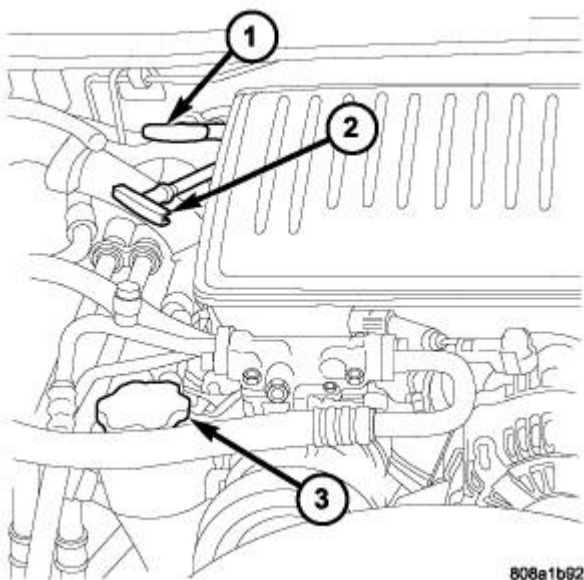

Fig. 123: Transmission And Engine Oil Dipsticks & Engine Oil Fill Cap
The engine oil level indicator (1) is located at the right rear of the engine on the 3.7L/4.7L engines. Refer to **Fig. 123**.